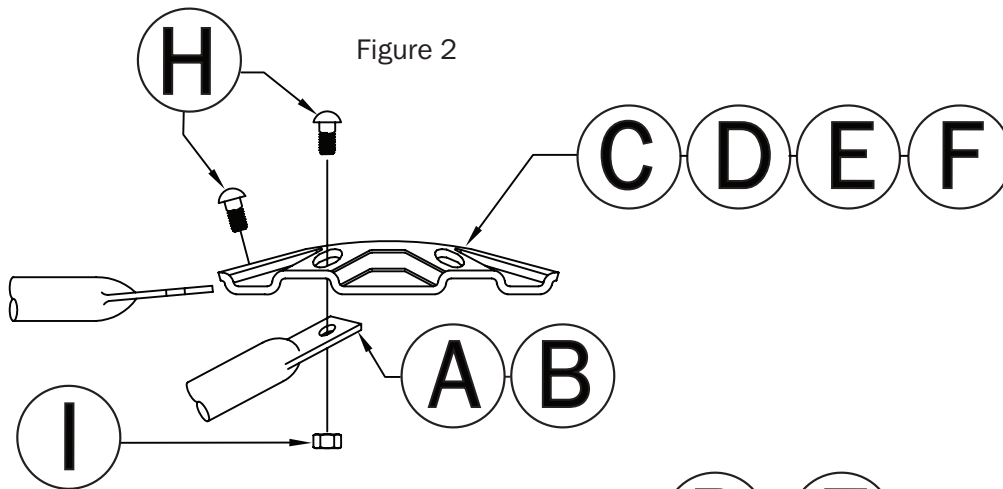

Figure 2
1. Start at bottom of Geodome, working left to right, connect bottom Long Bars(A) using 6-hole Connecting Plates(D,E) and Carriage Bolts(H) and Self-locking Nuts(H). Finger tighten only. See Figure 2.
NOTE: It is important that the angle on the ends of the rung point outward from the center of the unit. See Figure 2.